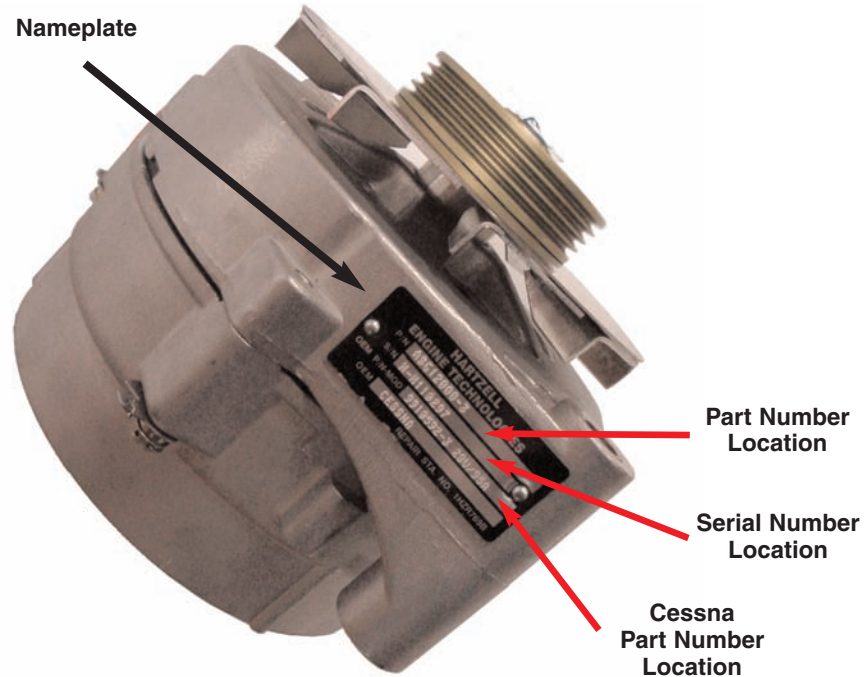

Figure 1 - Typical ASG12000 (-1, -2, & -3) Alternator
- (1) If positive identification of the alternator serial number can be made through the aircraft paperwork, and the alternator is NOT affected, proceed to 3.D, Maintenance Record. If the alternator IS affected by serial number, proceed to Corrective Action instruction 3.B.
- (2) If positive identification of the alternator serial number CAN NOT be made through the aircraft paperwork, locate the alternator nameplate (see Figure 1) and observe the serial number.